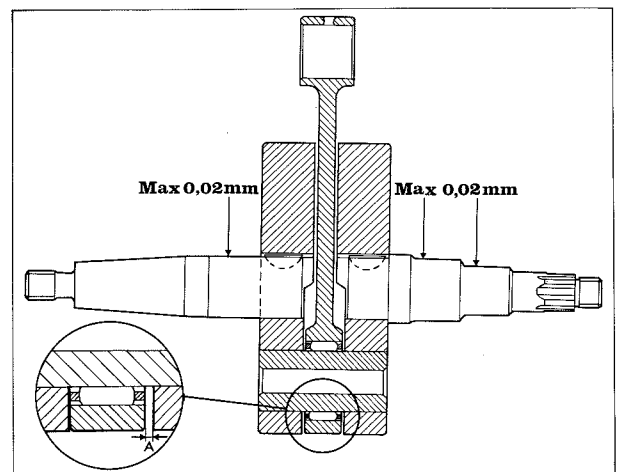

Fig. 8
7. Press on the crank disc until an end float as shown in the table below is obtained. See fig 8.
The jerks must not exceed 0,02 mm at the bearing positions according to fig 8.